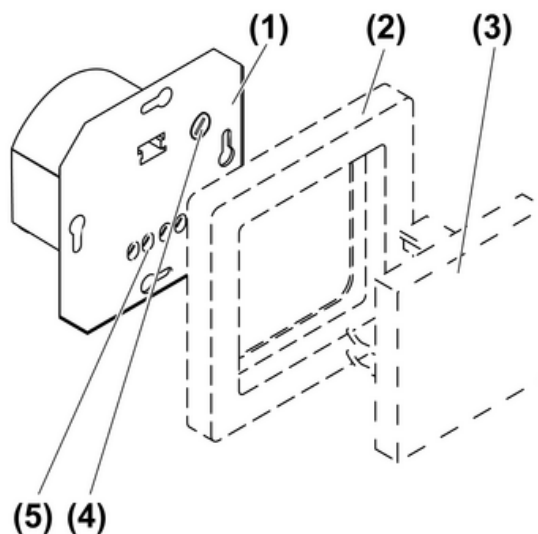

Figure 1: Device components
- Adjust the setter (4) (figure 1) by approx. 1/4 of a rotation.